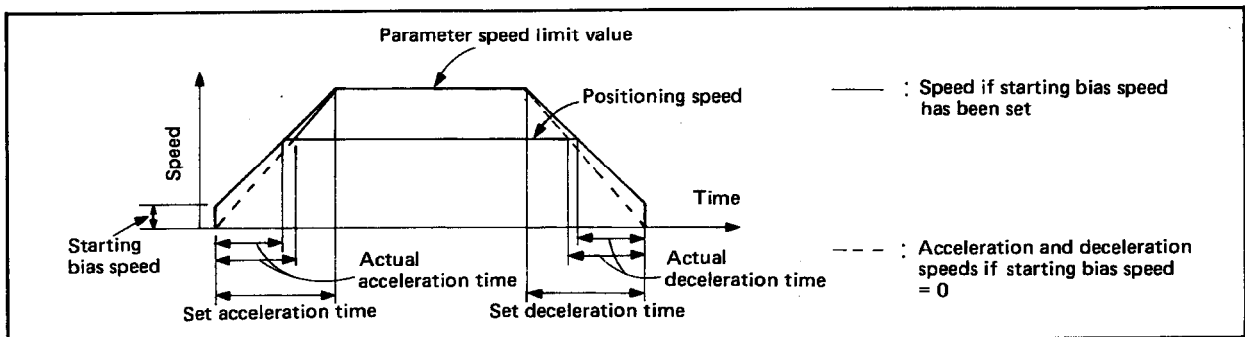

Fig. 3.5 Acceleration and Deceleration Times
(10) Manual pulse generator travel increment per pulse
(11) Acceleration and deceleration times
- Defines the period of time from the start of positioning to when the speed limit value specified in the parameter is reached. (Refer to Fig. 3.5.)